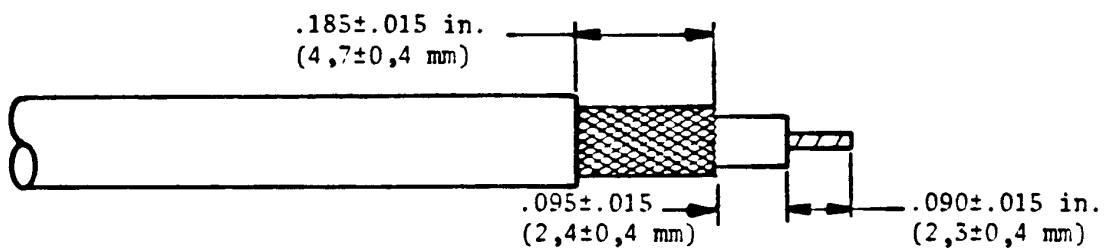

Figure 3
5.1.7.1 Strip the cable per the dimensions shown in Figure 3. Then flare the braid to expose the inner conductor dielectric.